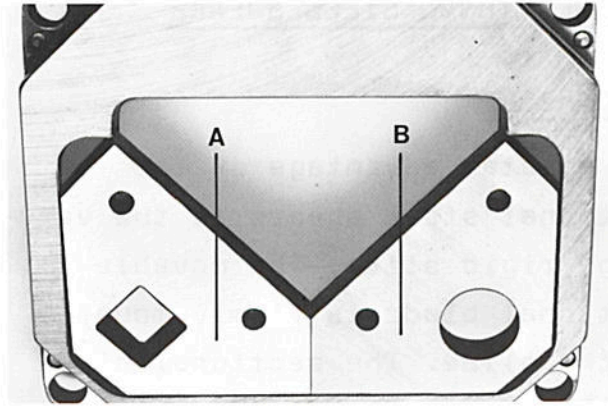

Fig. 30: Fixed sectional blade
- b) Dismount used blades A, B and C (see fig. 30 + 31).